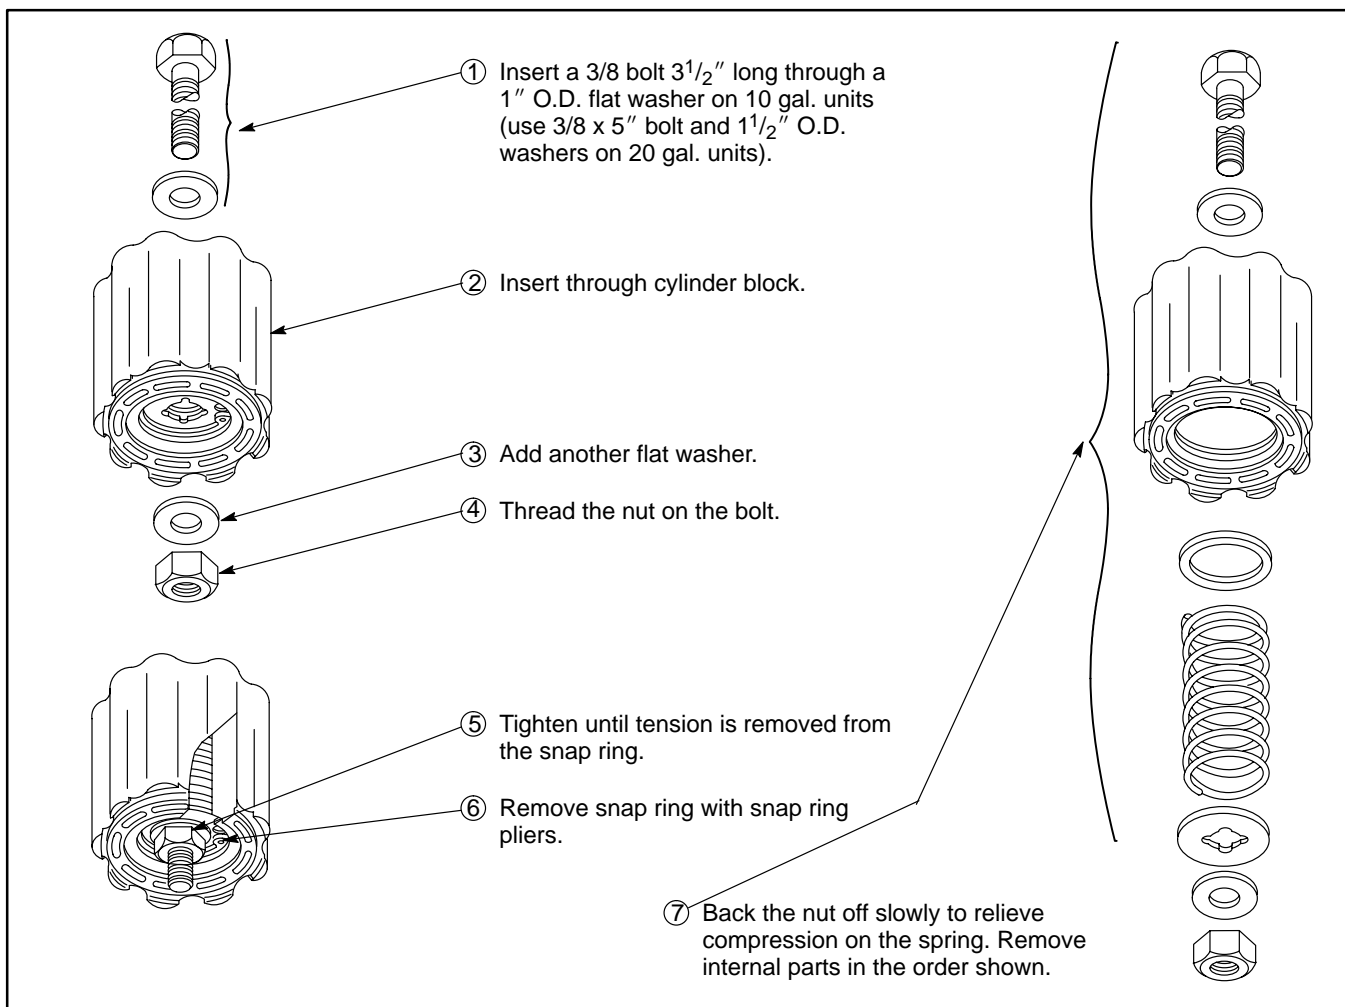

Figure 9.
*If the spring and washer are to be removed from the cylinder block, follow the procedure outlined in Figure 9 to prevent bodily injury from the sudden release of the cylinder block spring.*
4. **Rotating Group Assembly** – If the spring and washers were removed from the cylinder block, assemble them as shown in Figure 9.